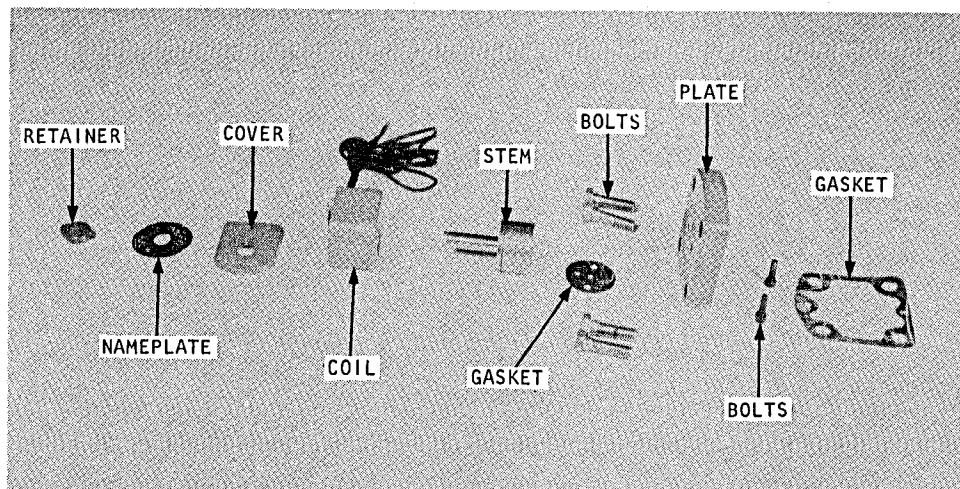

Figure 11
4. Figure 11 illustrates the disassembled solenoid valve assembly.